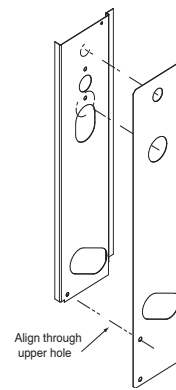

Fig. 11 - Use Header Plate as Template
4. Cut holes for liquid, suction and drain connections in the existing header panel. Use **new header plate** supplied with coil as template to locate holes. Align header plate to the header panel using the upper hole as indicated in Fig. 11.
3. Cut holes for liquid and suction connections in the existing header panel. Use **header plate** supplied with coil as template to locate holes. Align header plate to header panel using the upper hole as indicated in Fig. 11.